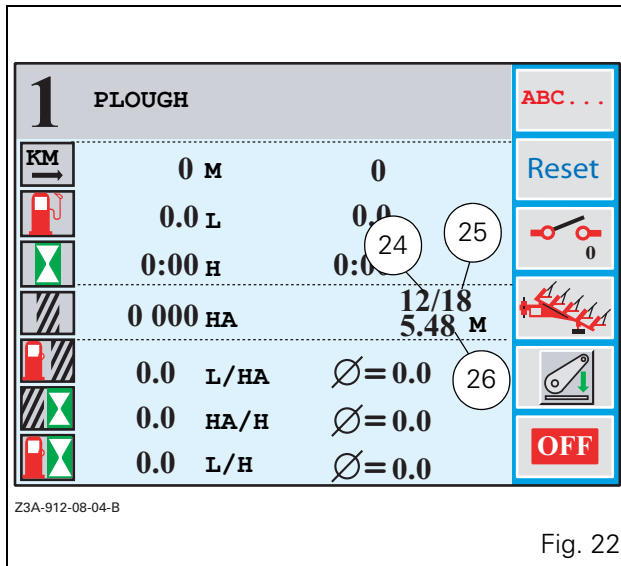

Fig. 22
- Set the width in inches by rotating the encoder (from 8 to 30 inches). The working width (22) varies according to the value displayed.
- Validate by pressing the encoder. The window (Fig. 22) is displayed.